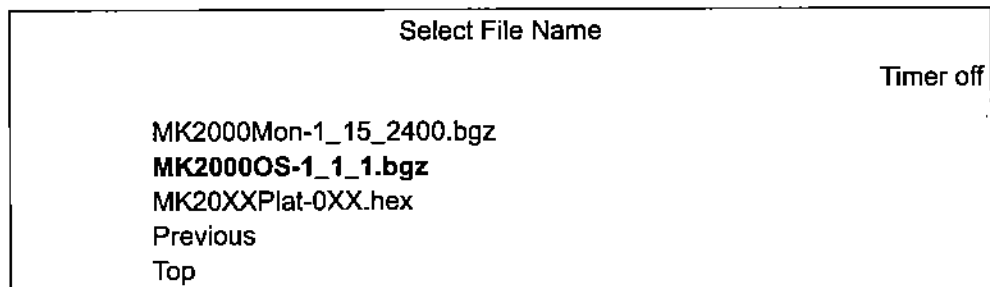

Figure F-4. Select File Name Menu
5. **Select the OS Upgrade File** - see Figure F-4. The *Select File Name* menu is displayed. Use the **A** button (Down) to highlight MK2000OS-1_1_1.bgz and select using the **C** button (Select/Action).